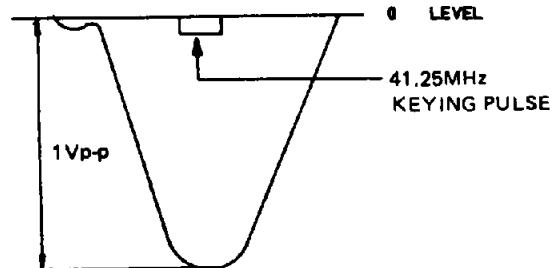

Figure 23. If Sound Trap Response Curve
3. Adjust L105 for minimum amplitude of the keying pulse. (41.25MHz) (See Fig. 23)